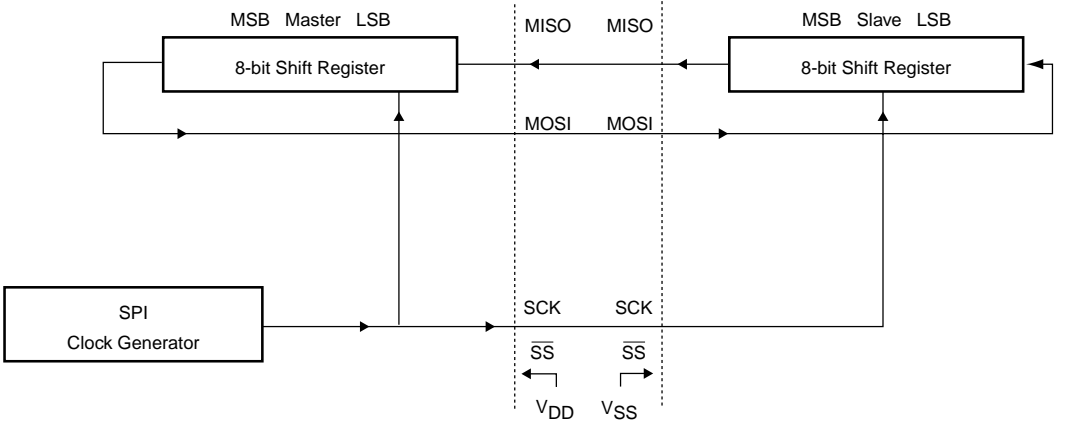

Fig 17. SPI master-slave interconnection.
The serial peripheral interface (SPI) allows high-speed synchronous data transfer between the P89V51RD2 and peripheral devices or between several P89V51RD2 devices. Figure 17 shows the correspondence between master and slave SPI devices. The SCK pin is the clock output and input for the master and slave modes, respectively. The SPI clock generator will start following a write to the master devices SPI data register. The written data is then shifted out of the MOSI pin on the master device into the MOSI pin of the slave device. Following a complete transmission of one byte of data, the SPI clock generator is stopped and the SPIF flag is set. An SPI interrupt request will be generated if the SPI Interrupt Enable bit (SPIE) and the Serial Port Interrupt Enable bit (ES) are both set.